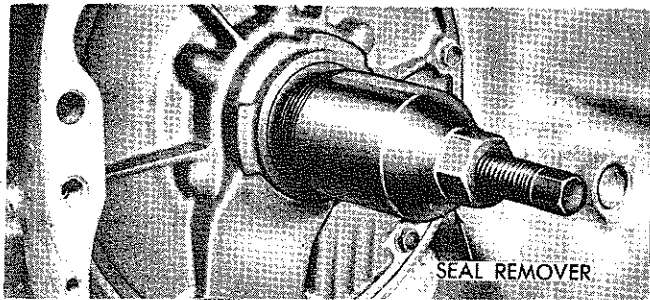

Fig. 27—Removing pump oil seal (typical view)
(1) Screw remover Tool E21C35G into Seal (Refer Fig. 27), then tighten screw portion of tool to withdraw the seal.